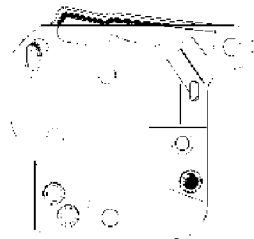

Figure 9
10. Place the sear spring on the sear spring support in the trigger housing as shown in Figure 9. - Rotate the tail of the sear safety cam downward until it passes the rear trigger assembly mounting hole and insert a m7 bolts stop pin to hold it down. Check to ensure the sear spring is properly located in the housing and on the sear safety cam.